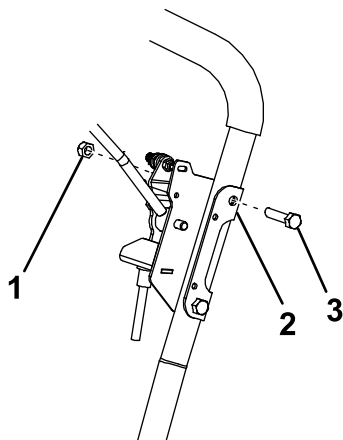

Figure 2
3. Remove and discard the bolts and nuts securing the top of the left and right brake brackets to the handle bar (Figure 2).